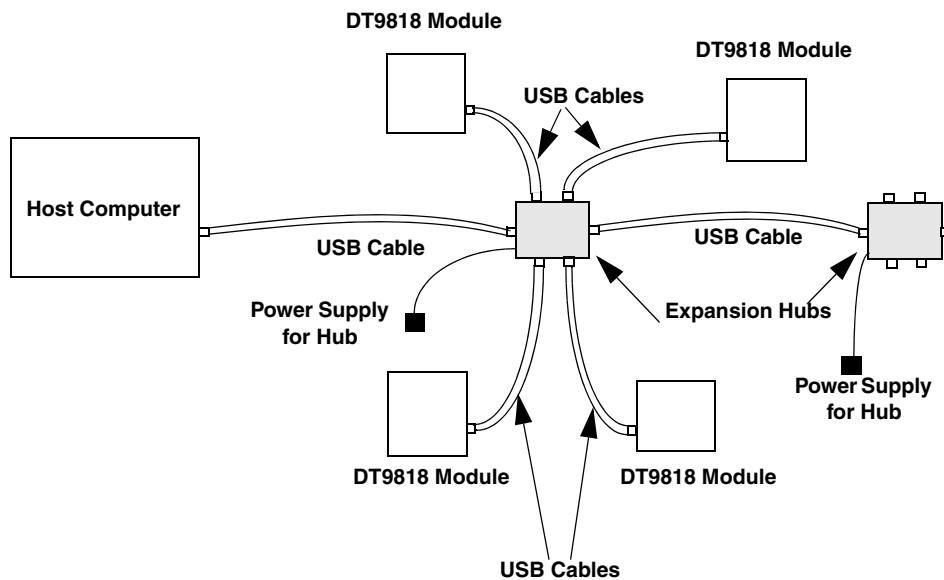

Figure 4: Attaching Multiple DT9818 Modules Using Expansion Hubs
6. Repeat these steps until you have attached the number of expansion hubs and modules that you require. Refer to Figure 4.